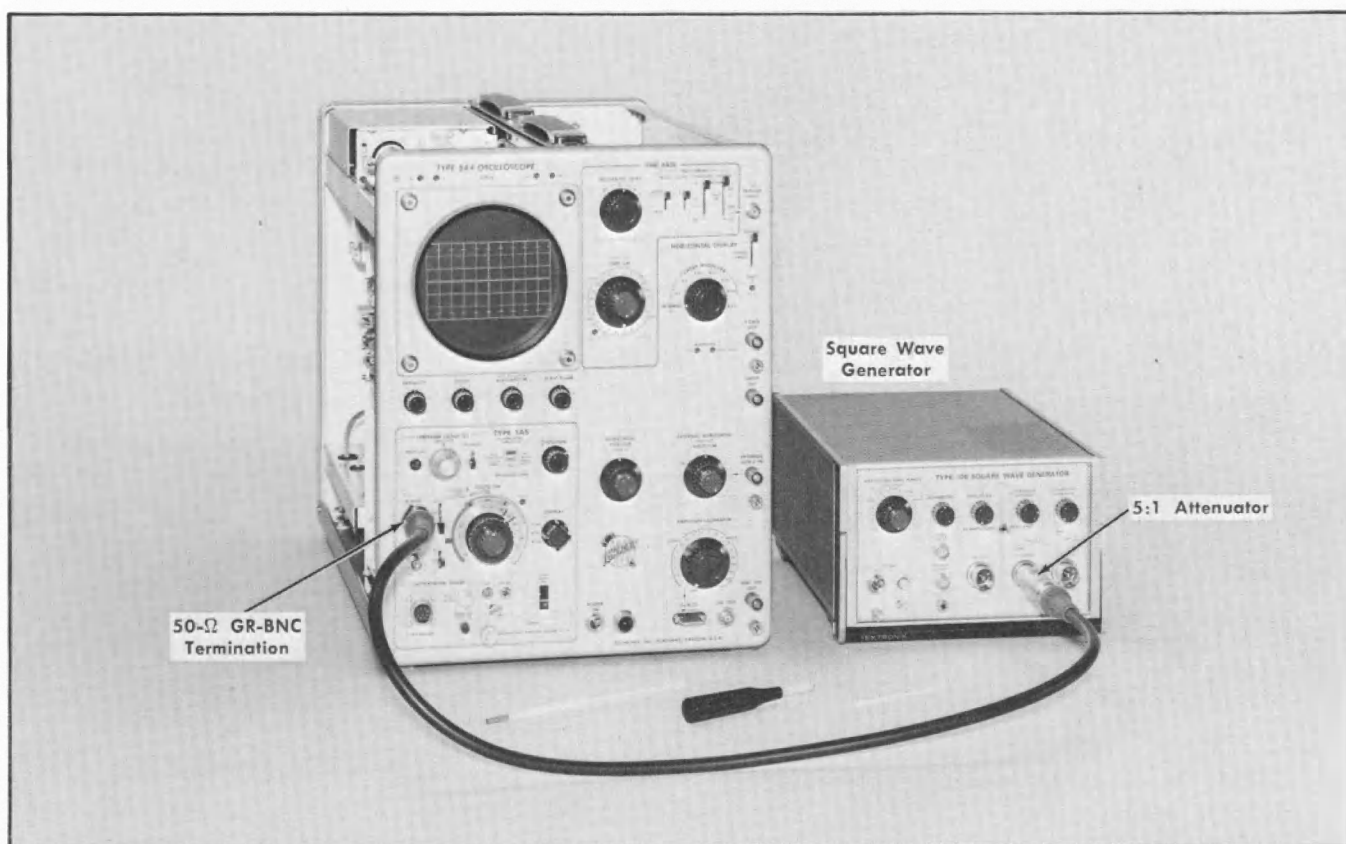
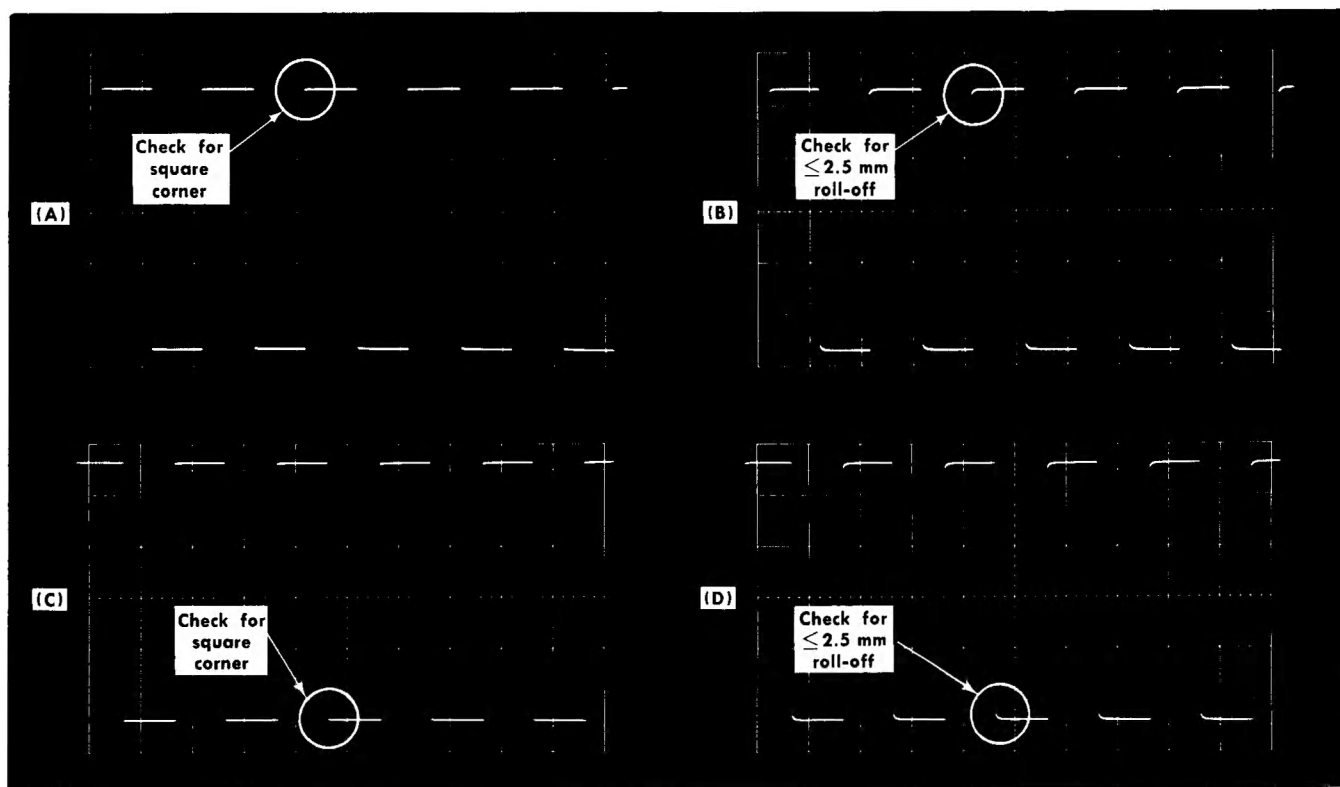

Fig. 6-22. Equipment setup for steps 20 and 21.
Fig. 6-24. Total crosstalk check—step 21. (A) and (B): A INPUT. (C) and (D): B INPUT.
20. Adjust High Frequency Compensation ①
a. Equipment setup is shown in Fig. 6-22. Adjustment locations and typical waveforms are indicated in Fig. 6-23.
a. Equipment setup is shown in Fig. 6-22. Typical waveforms are shown in Fig. 6-24.
f. Check for a square upper left corner of square wave as in Fig. 6-24 (A).
h. CHECK— 2.5 mm or less A INPUT roll-off at upper left corner of square wave. See Fig. 6-24 (B).
j. Check for a square lower left corner of square wave as in Fig. 6-24 (C).
l. CHECK— 2.5 mm or less B INPUT roll-off at lower left corner of square wave. See Fig. 6-24. (D).